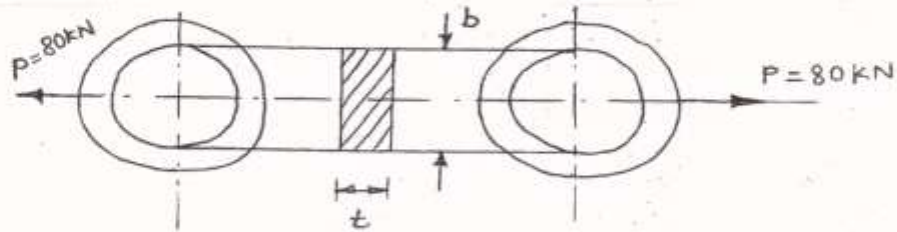

Fig. No. 2
- d) A M.S. link as shown in Figure No. 2 transmit a pull of 80 kN. Find the dimensions b and t , if $b = 3t$. Assume the permissible tensile stress as 70 MPa.